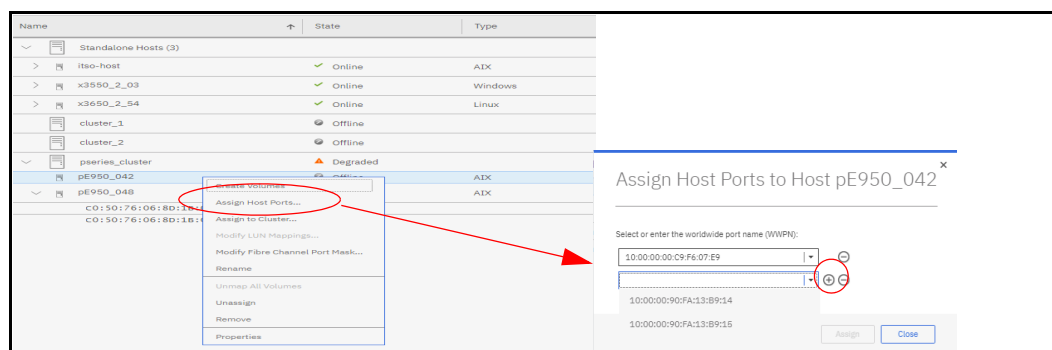

Figure 9-62 Assign Host Ports to Host
1. From the Hosts window, select the host to which to assign the host port. Either right-click, or from the Actions tab, select **Assign Host Port**, as shown in Figure 9-62.
Select one of the WWPNS that are shown in the drop-down list, or manually enter the WWPN of the HBA of the host that you are adding. You can select multiple WWPNS by clicking +, as shown in Figure 9-62. Click **Assign** to complete.